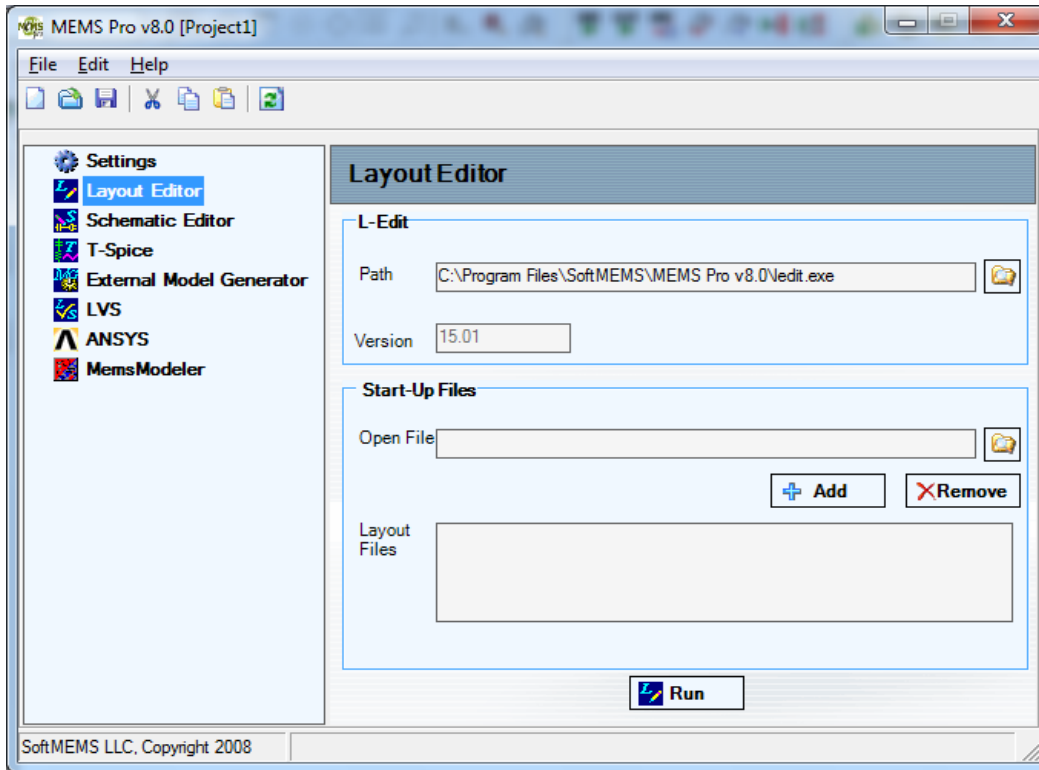

Figure 109: MEMS Pro launcher
- ☑ Click MemsModeler in the **Tools Selection** window (Figure 109).